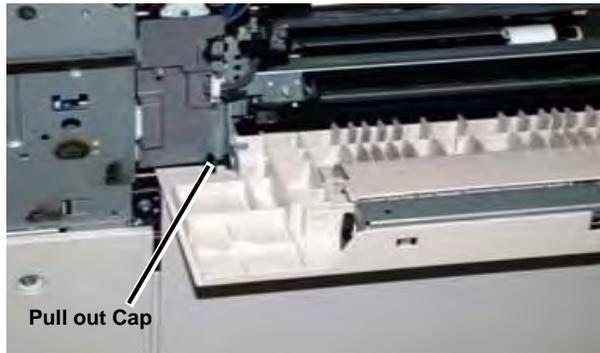

Figure 1 Removing Cover
4. Remove the Lower Left Hand Cover (Figure 1).